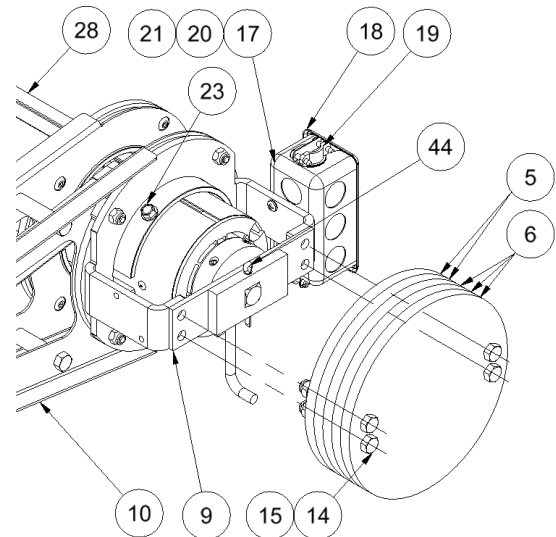

Figure 6a
3. **Single Motor Curtains (fig 6a):** Stack the weight plates (item 5 inner and 6 outer) as shown and connect to the motor drive plate (item 9) and to the anti-torque arm (item 10) using the four 5/16 x 2 3/4" bolts (Item 14) and 5/16" Lock Nuts (Item 15).